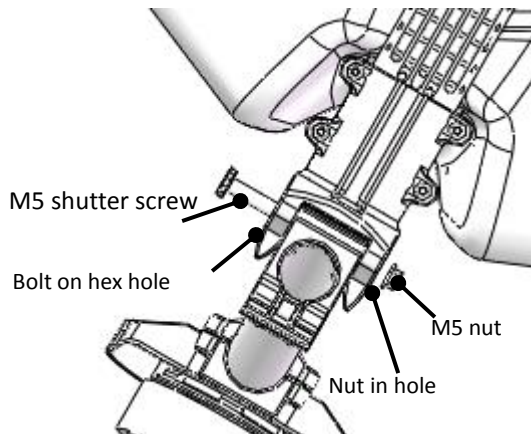

Figure 10
- 4) Install the M5*49 plug screw from the hexagon side of the 6mm hole on fuselage arm joint, see figure 10.